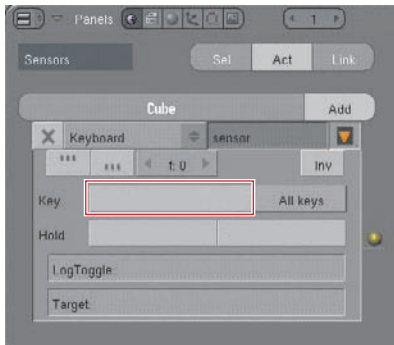

Figure 6.11 Press the button indicated, and then press the spacebar when prompted.
7. The game action you're setting up will be triggered by pressing the spacebar. To determine this, click the button indicated in Figure 6.11. When prompted to press a key, press the spacebar.